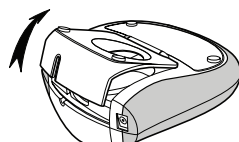

Figure 2
1. Lift the label cassette cover to open the label compartment. See Figure 2.